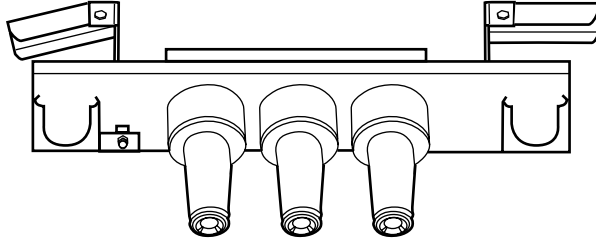

Figure 4. Pivot support/mounting feet assembled to frontplate.
- Using supplied 5/16" hardware, loosely attach pivot support/mounting feet assembly to back of frontplate and place assembly against the mounting surface (Figure 4).